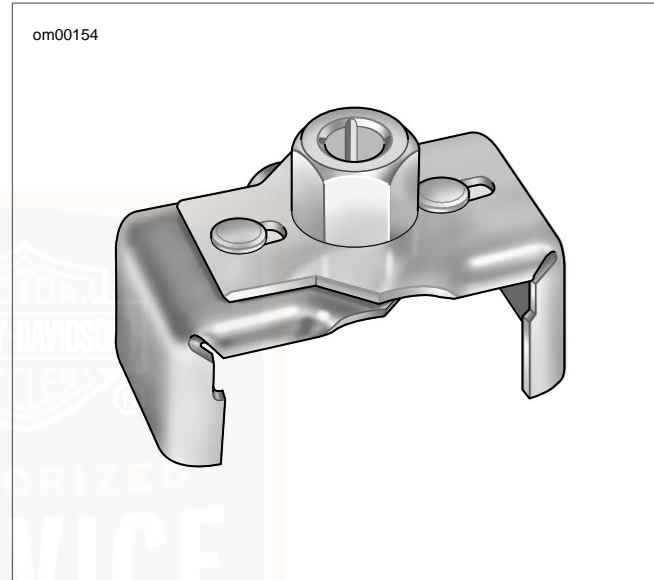

Figure 49. Oil Filter Wrench (Part No. HD-42311)
5. See Figure 49. Remove the oil filter using the OIL FILTER WRENCH (Part No. HD-42311) or OIL FILTER WRENCH (Part No. HD-44067A). These tools allow easy removal of the oil filter without risk of damage to the crankshaft position sensor or cable.